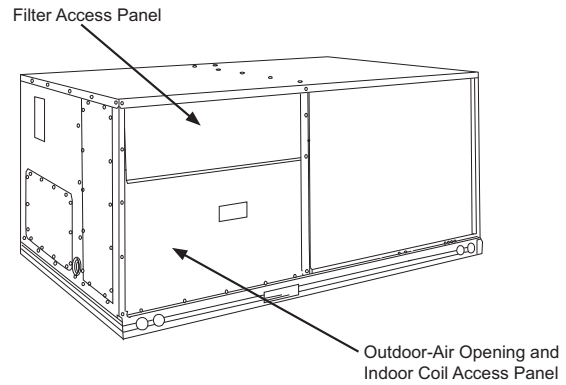

Fig. 14 - Typical Outdoor Air Section Access Panel Locations
2. Remove the existing unit filter access panel. Raise the panel and swing the bottom outward. The panel is now disengaged from the track and can be removed and discarded (See Fig. 14).
3. Remove the indoor coil access panel and discard (See Fig. 14).